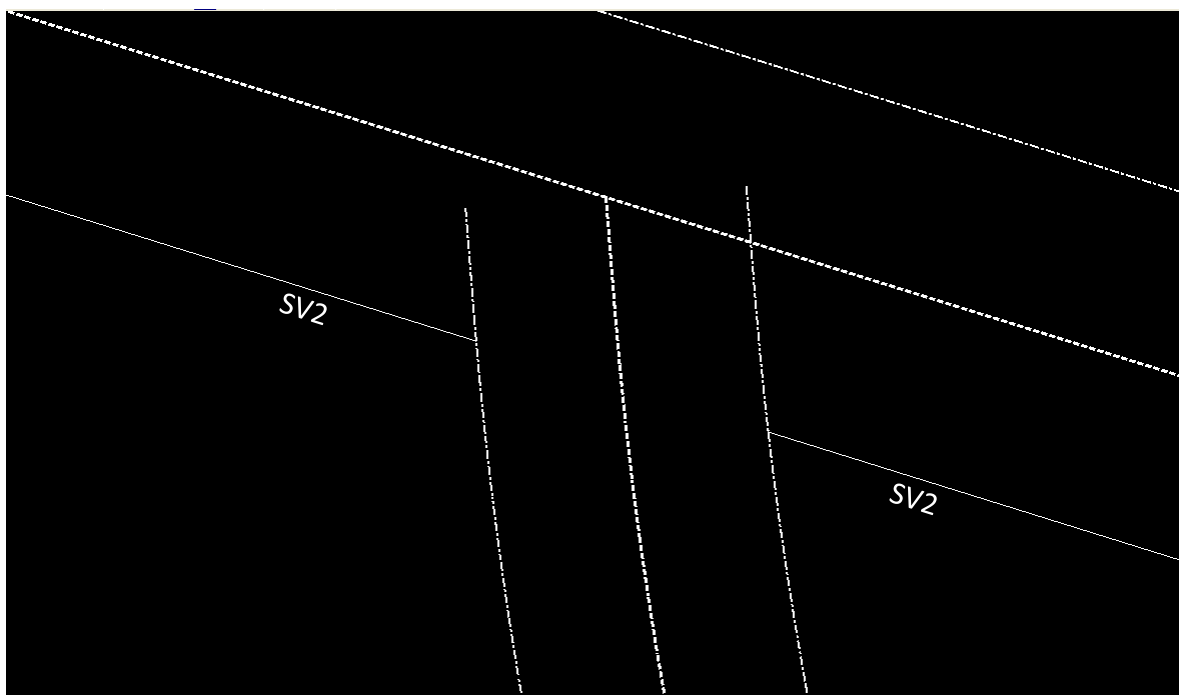

Figure L12-9 MicroStation View.
7. Left click again to Accept or Right click to reject and try again. Alignment **SV2** is partially deleted between alignment **SV3** and **SV5** as shown in *Figure L12-9*.
39. Once Alignment **SV2** is partially deleted as shown in *Figure L12-9*, unnamed coordinates are created at the breakage points. Alignment Points must now be created at these locations and converted to Cogo Points.